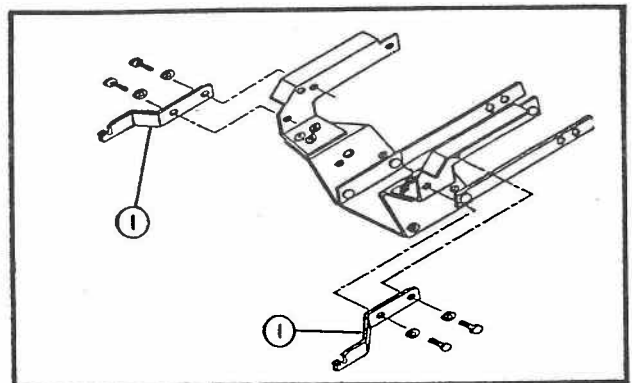

FIGURE 2
- h) Install spring support brackets (fig.2, item 1) on front support brackets using existing hardware.